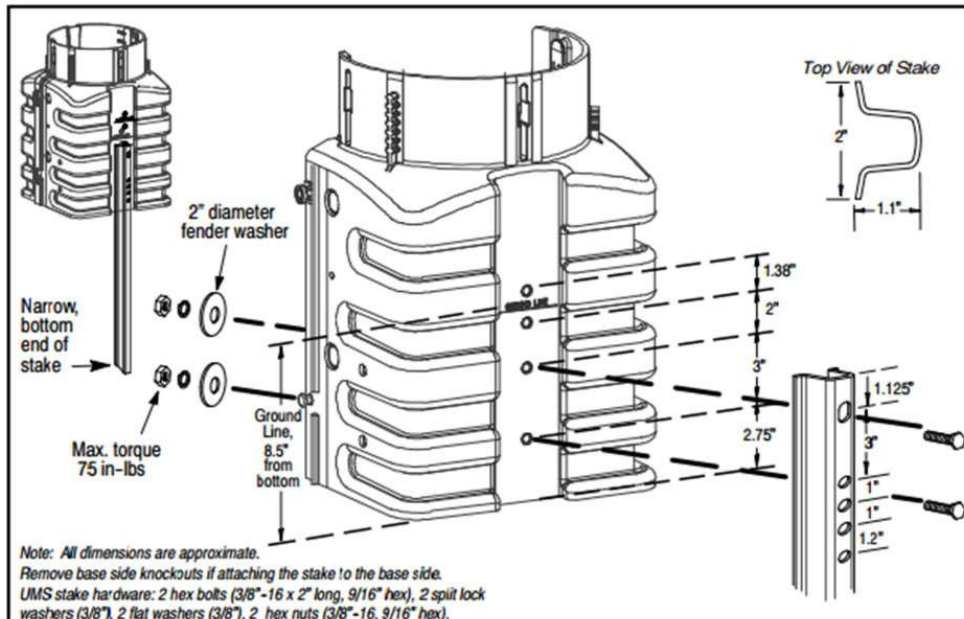

Figure 4 Expanded Split Square Base
7. **SQUARE BASE:** Position the base and level per company practice. As the trench is backfilled, periodically tamp the soil, always pushing the soil toward the base to help remove air from the backfill soil, making settling less likely to occur. Alternately, backfill the base, inside and outside, tamping the soil as it is added. Ensure that the soil on the inside of the base is even with the top of the second rib from the bottom. On the outside, ensure the backfill is even with or above the ground line (Figure 4).